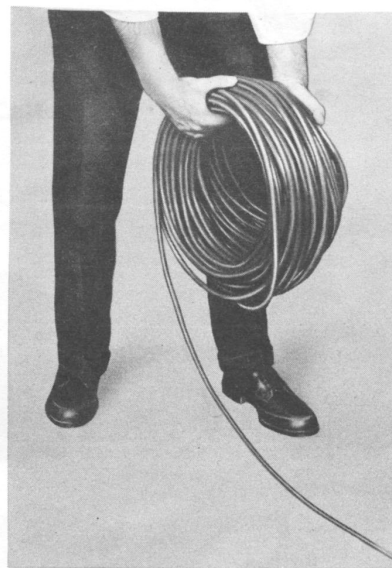

Fig. 3 — Paying Out Cable
2.03 To pay out cable, remove cable from coil by paying it off from outside of coil (Fig. 3).